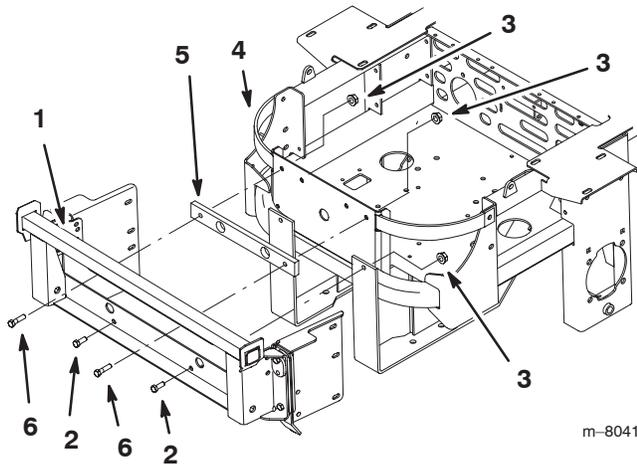

Figure 3
Important When installing the bagger onto an air cooled machine, use the air cooled spacer (Fig. 3).
1. Install the bagger mounting bracket to the rear frame of the machine (Fig. 3).
2. In the top two holes, install 2 bolts (3/8 x 1-3/4 inch), 2 flange nuts (3/8 in.) and the air cooled frame spacer (Fig. 3).
3. In the bottom two holes, install 2 bolts (3/8 x 1-1/4 inch) and 2 flange nuts (3/8 in.) (Fig. 3).
1. Tighten the bagger mounting bracket to the rear frame first (Figures 3 or 6).
2. Tighten the bagger mounting bracket to the side brackets (Figures 3 or 6).